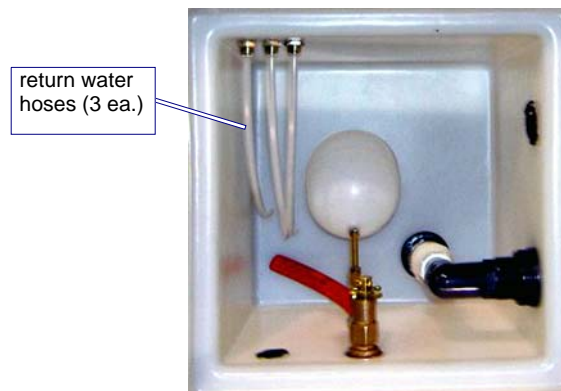

Figure 4-14: White Water Tank Internal View
6. Check the white water tank inside the pump (Figure 4-14) to verify the water level is between one-half and three-fourths full.